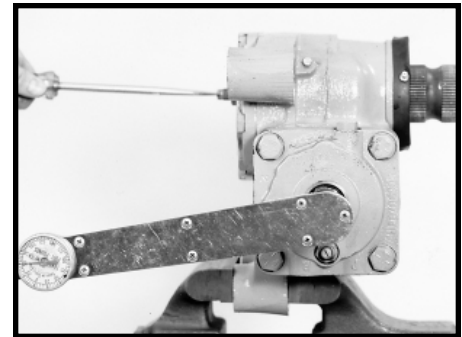

Figure 162
2. Tighten sector shaft adjusting screw (49) to provide 25 to 30 in.lbs. (2.8 to 3.4 N m) of torque required to rotate the worm shaft/input shaft (16) through 180° each side of center. SEE FIGURE 162